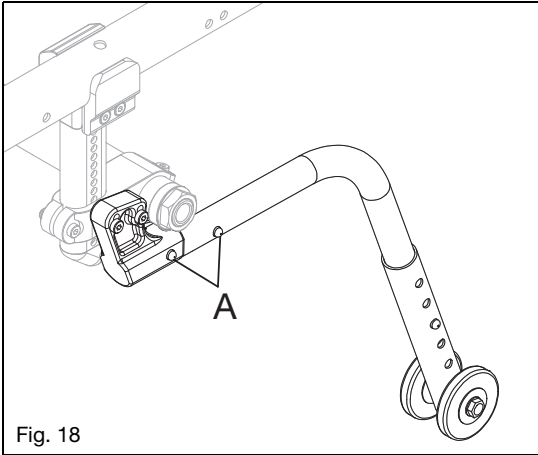

Fig. 18
How to Install the Standard Anti-Tips (Fig. 18)
1. Press the rear anti-tip release pin (Fig. 18:A) on the anti-tip tube so both the release pins are drawn inside.